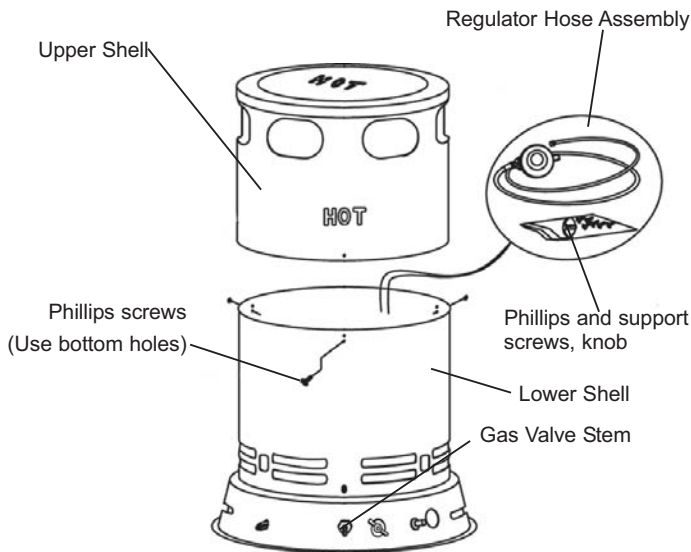

Figure 4: Attaching Regulator to cylinder
- Slide upper housing over lower housing, lining up the four remaining screw holes. Insert 4 (four) phillips head screws and tighten securely (See Figure 4).